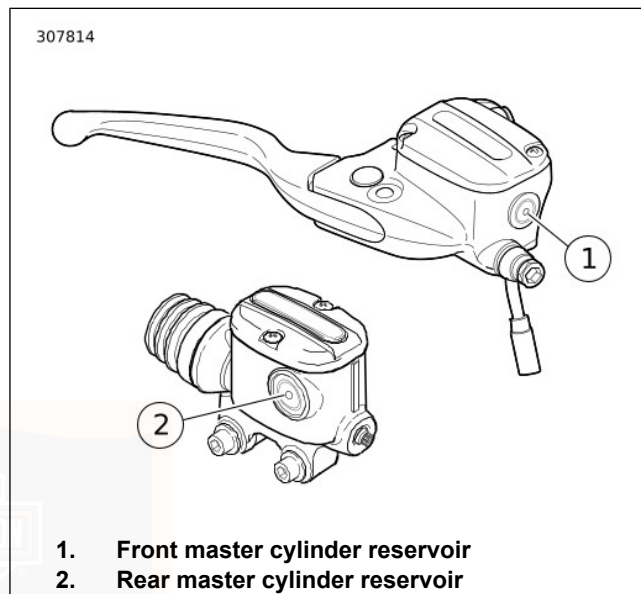

Figure 80. Sight Glass Minimum Marks
2. See Figure 80. View reservoir sight glass. Fluid level must be at or above the minimum mark on glass. If fluid level is below minimum mark, see a Harley-Davidson dealer.